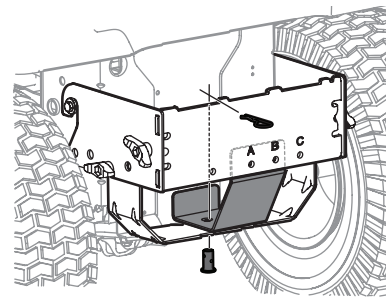

Figure 4
2. Install the support bracket (783-08856), included with the loose parts, into the mounting assembly as shown in Figure 4. Line the holes up as shown.
3. Install the clevis pin (711-0309A) from hardware pack (689-02364) into the tractor's hitch, the support bracket, and the mounting assembly and secure with a cotter pin (714-0117). See Figure 4.